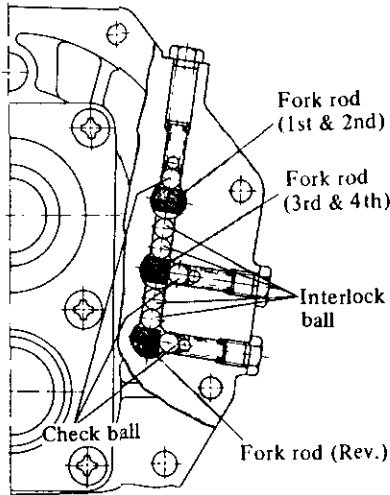

Fig. MT-11 Layout of check ball and interlock ball
2. Remove three(3) check ball plugs, and drive out fork rods from adapter plate by lightly tapping on the front end.
Be careful not to lose three(3) check balls and four(4) interlock balls. See Figure MT-11.